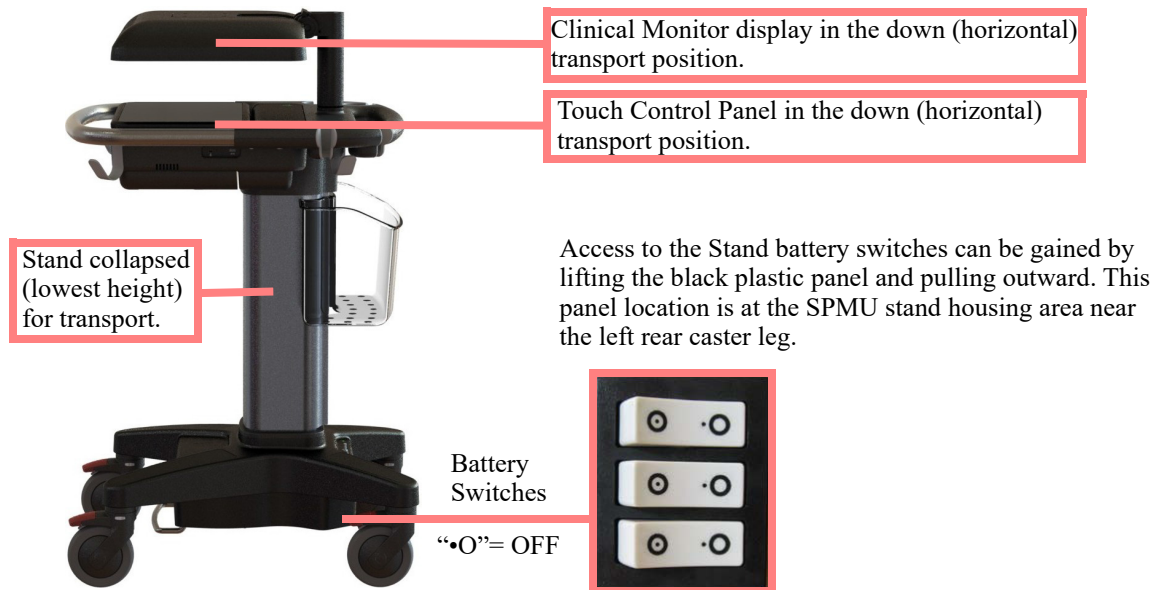

Figure 3.1 Stand System Battery Switches & Transport Positioning
- WARNING: Due to the captive nature of the Stand version system batteries, any shipping transport, service activities, or extended periods of non-operation with the system unplugged from the AC wall source, will require that the battery ON-OFF switch be set to the “•O” (OFF) position. Please refer to Figure 3.1 on page 6.
Please observe the prior Warnings and Cautions outlined in this chapter concerning the stand version system for transport and servicing. Lower (collapse) the stand to the lowest height position, fold to the horizontal position the Clinical Monitor display and touch Control Panel, and access the three battery switches and ensure that all switches are in the “•O” (OFF) position. Many government agencies require that no electronic equipment be shipped via air transport with live battery power attached to the equipment. Refer to Figure 3.1 on page 6 as to how to position the system stand and disconnect the battery power for transport and servicing.